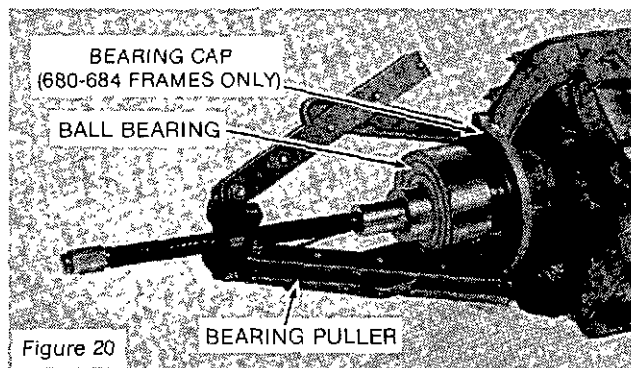

Figure 20
2. If the bearing is to be replaced, remove with a suitable puller. (See Figure 20.) On 680-684 Frame generators and two bearing generators, be sure the bearing cap is on the shaft before installing the new bearing.